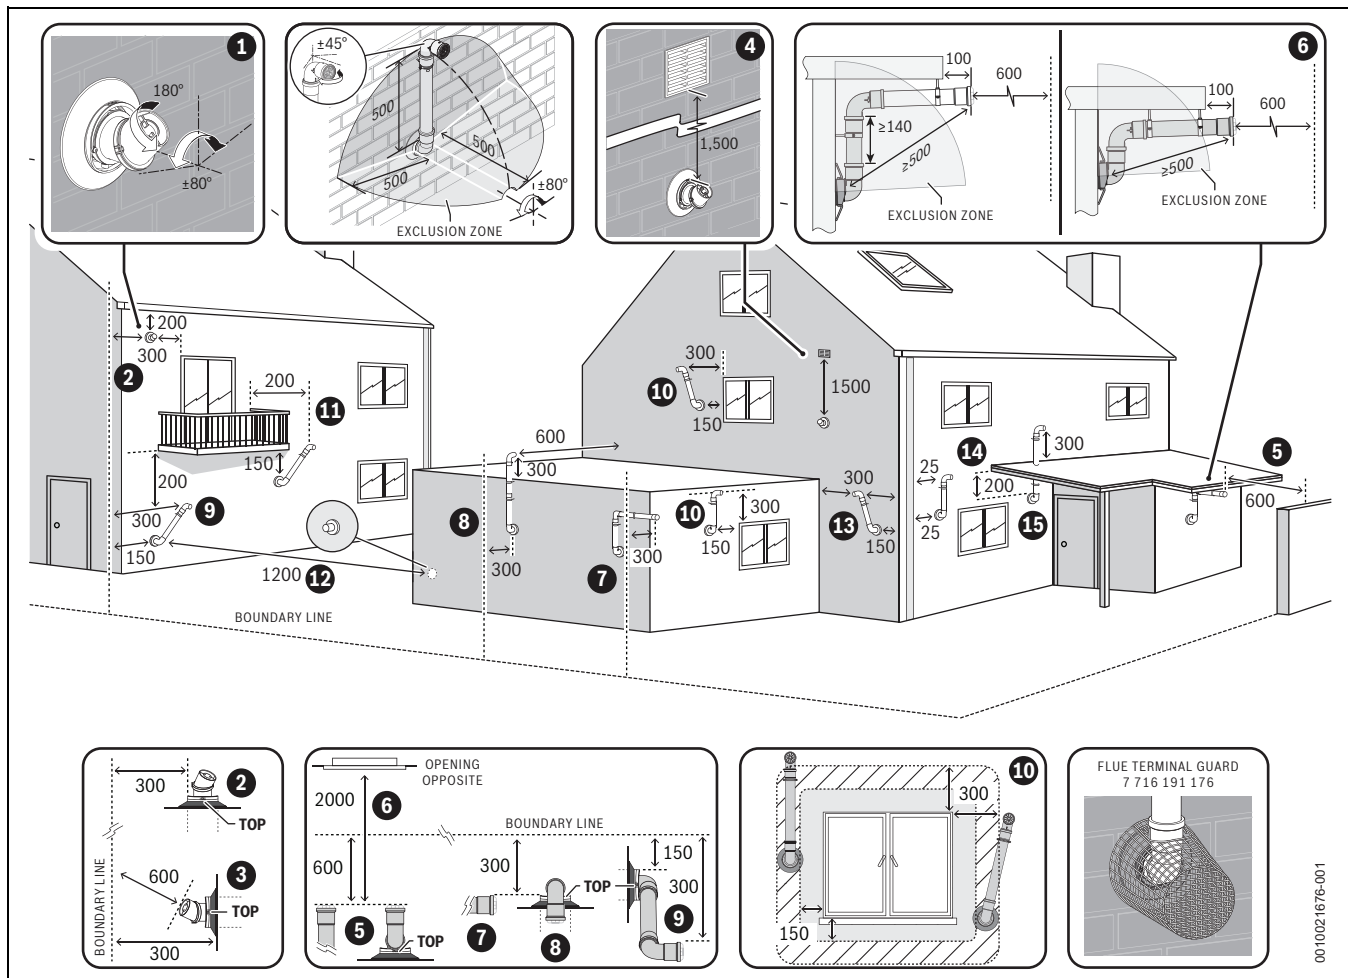

Fig. 32 Plume re-direct and plume management terminal positions
- ▶ Refer to “Horizontal flue terminal positions” for all concentric flue terminal positions unless the flue position is specified in figure 32 “Plume re-direct and plume management terminal positions”.
**Key to figure 32**